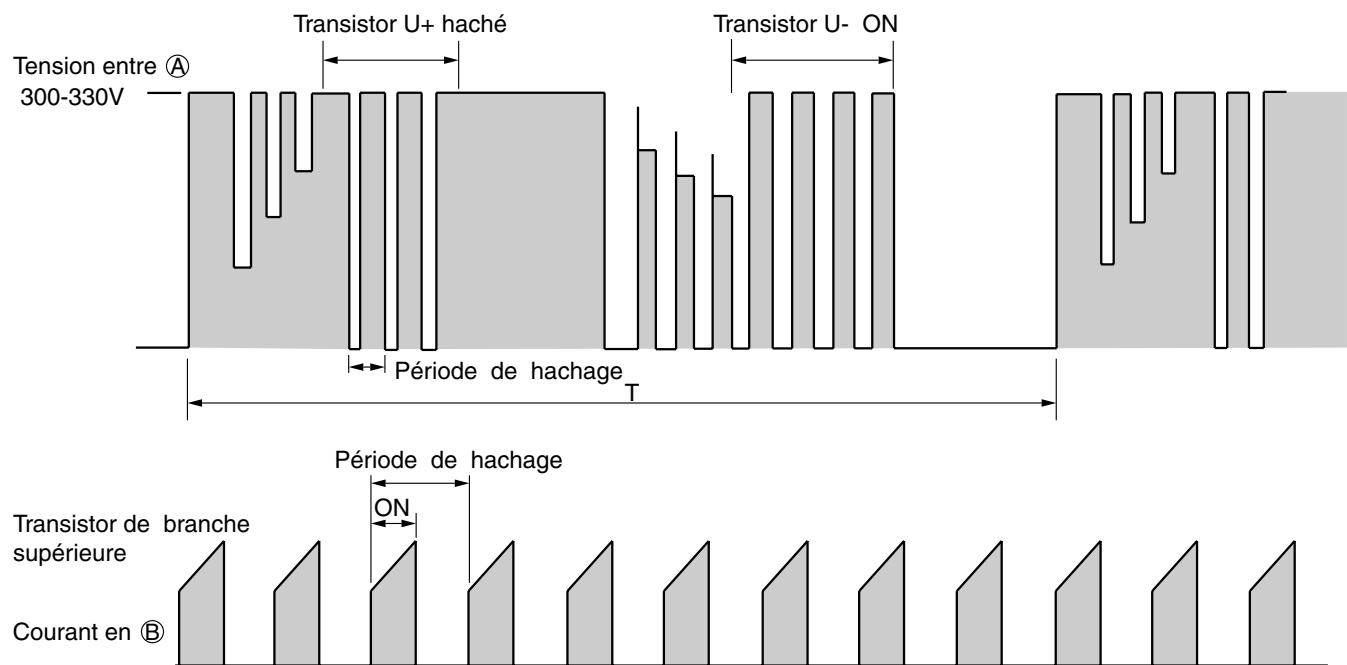

Fig. 3-3 Forme d'onde de la tension en chaque point.
- La Figure 3-3 représente la forme d'onde de la tension à chaque point dans les figures 3-1 et 3-4.
- Since current flows at point ⑧ only when U^+ transistor and V^- transistor is ON, the current waveform at point ⑧ becomes intermittent waveform as shown in Fig. 3-3. Since current at point ⑧ is approximately proportional to the input current of the air conditioner, input current is controlled by using DC current (Id) detection resistor.